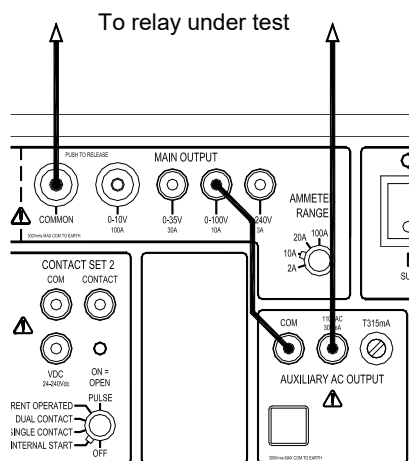
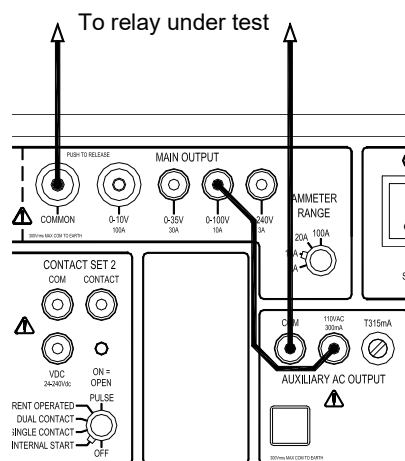

Figure 3.6. Forward connection – voltage increases when main output is on.
Figure 3.7. Reverse connection – voltage decreases when main output is on.
*Configurations with a “forward” phase relationship use the connection shown in figure 3.6. Configurations with a “reverse” phase relationship use the connection shown in figure 3.7, in which the connections to the auxiliary ac supply are reversed.